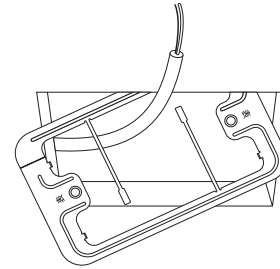

Fig. 3-26
3. Pass the wire through the provided mounting bracket and insert the bracket into the installation hole. (Fig. 3-26)